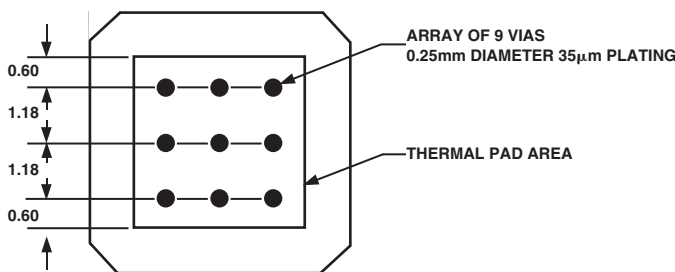

Figure 8. LFCSP via Pattern (Dimensions Shown in Millimeters)
2. The thermal pad of the CSP package provides a low thermal impedance path to the PCB. Therefore, the PCB must be properly designed to effectively conduct the heat away from the package. This is achieved by adding thermal vias to the PCB, which provide a thermal path to the inner or bottom layers. See Figure 8 for the recommended via pattern. Note that the via diameter is small. This is to prevent the solder from flowing through the via and leaving voids in the thermal pad solder joint.